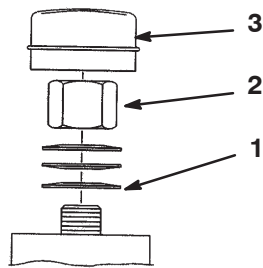

Figure 49
3. Remove dust cap from caster and tighten lock nut (Fig. 49).
4. Tighten until spring washers are flat and then back off a 1/4 turn to properly set the pre-load on the bearings (Fig. 49).
Important Make sure spring washers are installed correctly as shown in figure 49.
5. Install the dust cap (Fig. 49).